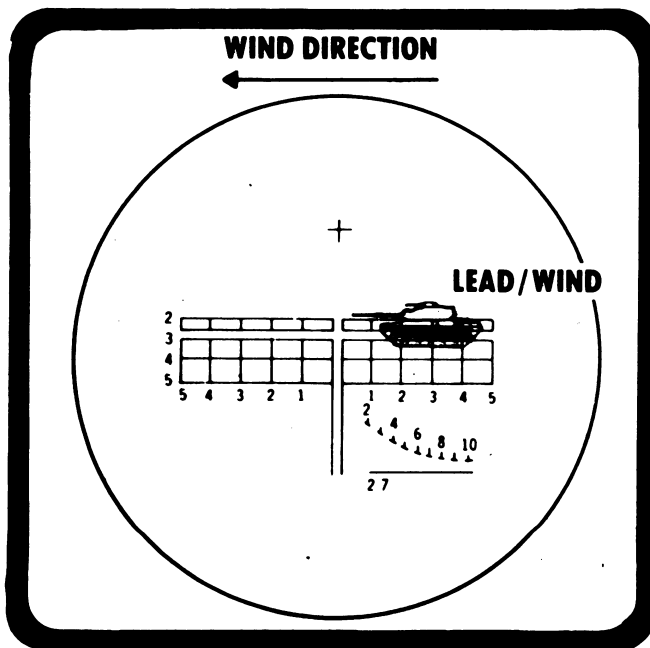

Figure 6. Sight picture with stationary target (with winds).
4. Sight picture with stationary target (with winds) (fig. 6).